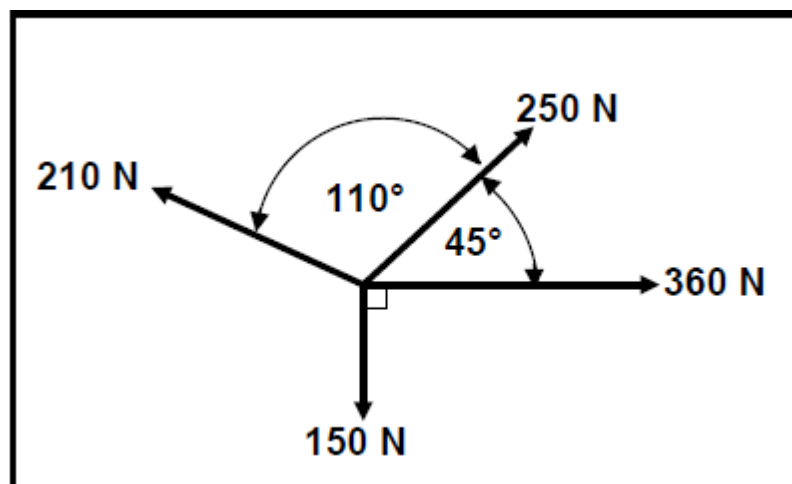

FIGURE 2.2
2.2 Four forces of 150 N, 210 N, 250 N and 360 N respectively, as shown in FIGURE 2.2 below, act on the same point. Calculate the magnitude and direction of the equilibrant for this system of forces.